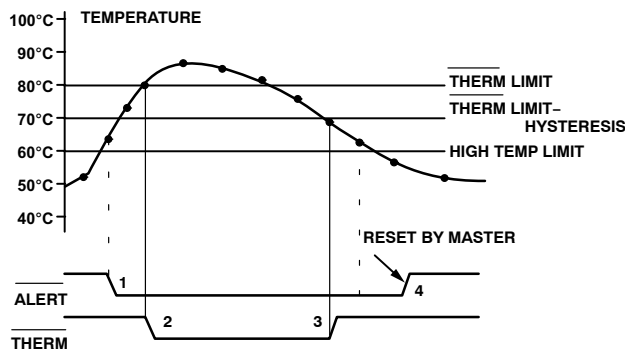

Figure 14. Operation of the $\overline{\text{ALERT}}$ and $\overline{\text{THERM}}$ Interrupts
Figure 14 shows how the $\overline{\text{THERM}}$ and $\overline{\text{ALERT}}$ outputs operate. The $\overline{\text{ALERT}}$ output can be used as a SMBALERT to signal to the host via the SMBus that the temperature has risen. The user can use the $\overline{\text{THERM}}$ output to turn on a fan to cool the system, if the temperature continues to increase. This method ensures that there is a fail-safe mechanism to cool the system, without the need for host intervention.
- The $\overline{\text{THERM}}$ output de-asserts (goes high) when the temperature falls to $\overline{\text{THERM}}$ limit minus hysteresis. In Figure 14, the default hysteresis value of 10°C is shown.